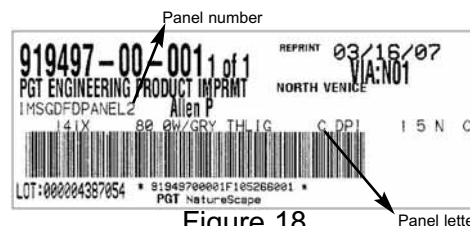

Figure 18
- 1) Shipping labels on panels will have the panel # and letter name on them; they will be installed in order from left to right. Please see the configuration page for the proper track the panel goes onto. (See Figure 18)